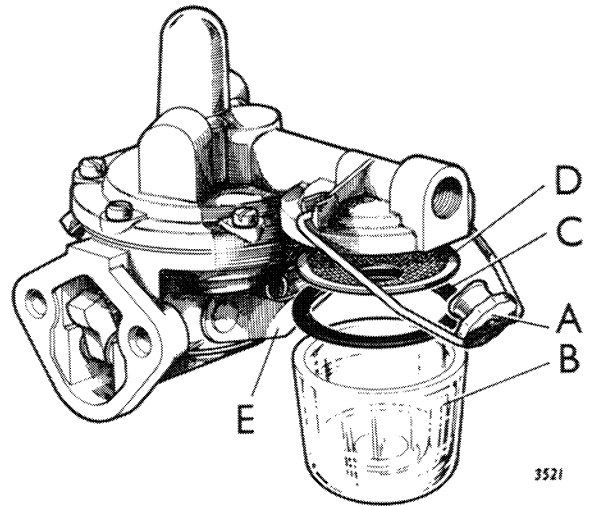

Figure 5. FUEL FEED PUMP SEDIMENT BOWL
**Sediment Bowl:** Remove the sediment bowl and filter screen, wash in gasoline and replace. (Fig. 5.)